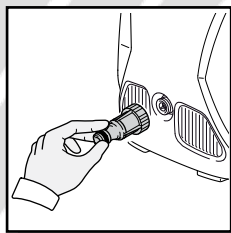
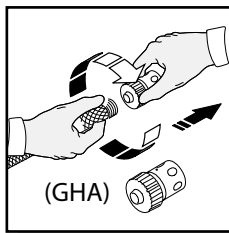
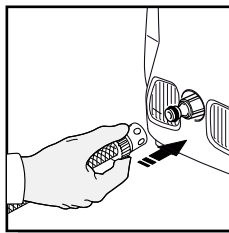

Fig. 12
Fig. 13
Fig. 14
- First, remove the plastic shipping cover on the water inlet on the front of the power washer. Attach the clear plastic adapter by screwing it into the water inlet (Fig. 12). Hand tight is fine. Next screw on the blue/black collar attachment to your garden hose (Fig. 13). Slide the blue/black collar onto the clear adapter (Fig. 14), it will "click" into place. The water is now connected to your power washer.